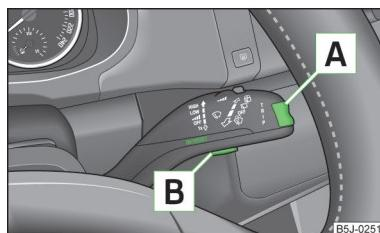

Fig. 24
- » Press and hold rocker switch **A** » Fig. 24 to activate the **MAIN MENU**.
- Warning messages shown in the information display must be confirmed by pressing button **B** briefly » Fig. 24 to call up the main menu.
- Warning messages shown in the MAXI DOT display must be confirmed with button  » Fig. 24 on page 33 to call up the main menu.